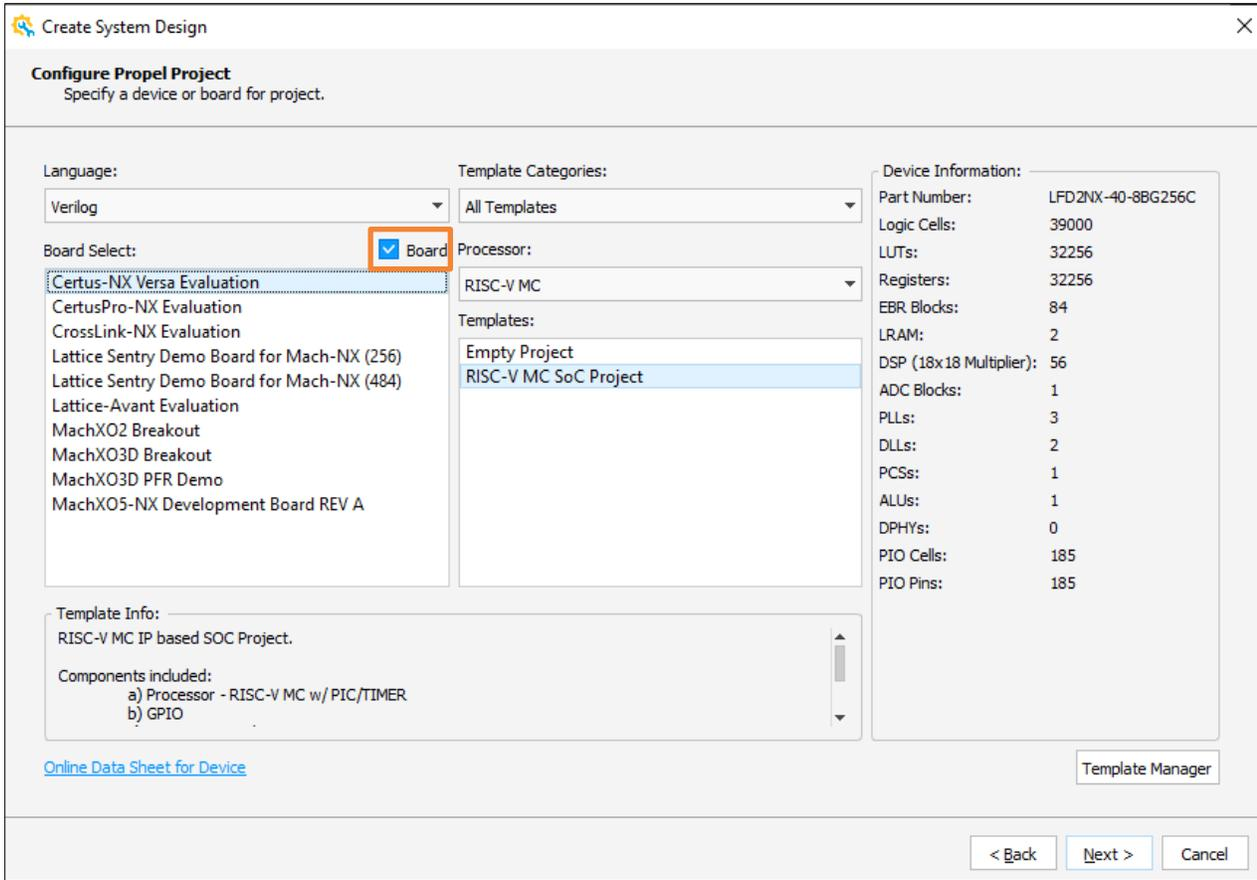

Figure 2.5. Specify a Board for Template SoC Project (1)
- Or, to specify a board for a new Template SoC project, check the **Board** box (Figure 2.5).